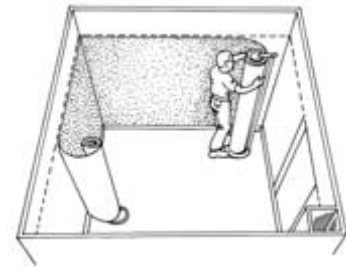

Figure 3.14
3.14 Apply the rolls of wall covering, one at a time, to the adhesive on the wall, ending at the door (figure 3.14)